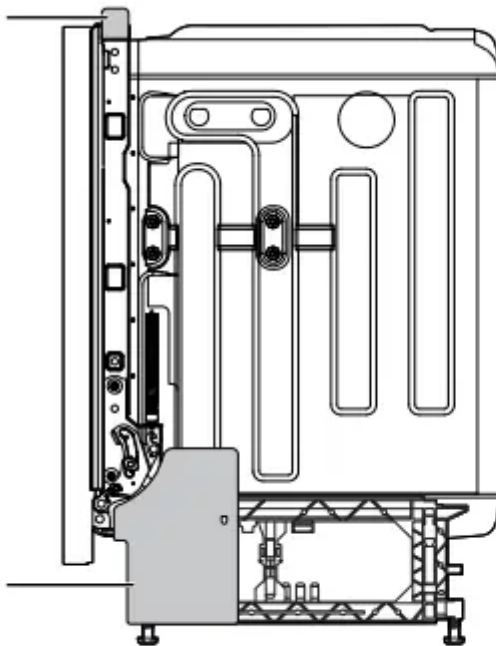

Figure: 4
■ Tuck the lower ends of the side shields under the dishwasher. (See figures 4 and 5)